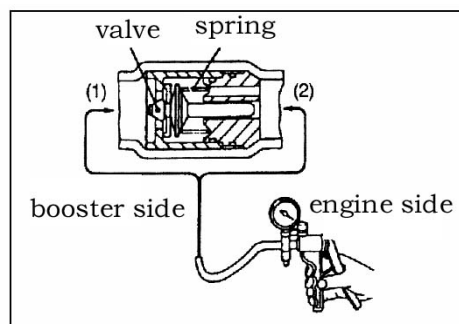

Fig. 16-10
3) check valve operation (see Fig.16-10)